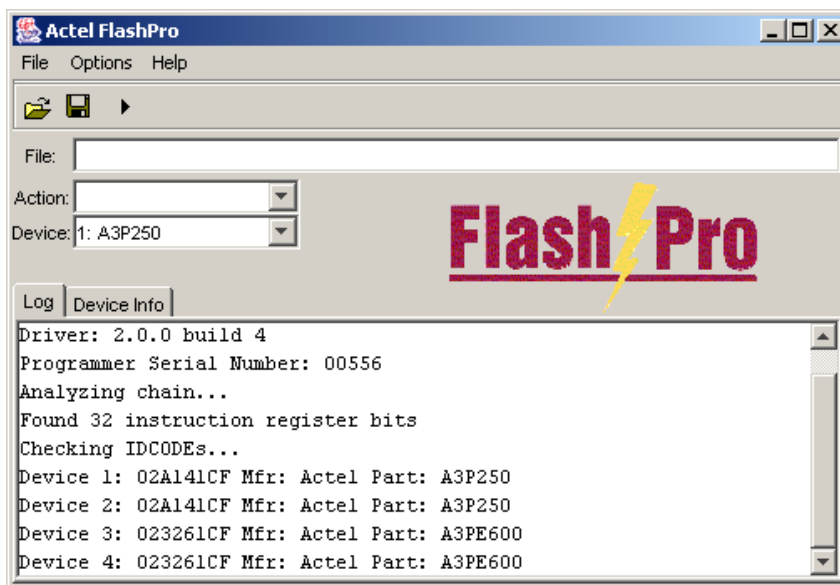

Figure 4-13. FlashPro: Analyzing Chain
1. From the *File* menu, click *Analyze Chain*. Chain details appear in the Log window, as shown in Figure 4-13. If you encounter any failures, please refer to “Error Messages & Troubleshooting Tips” for more information.